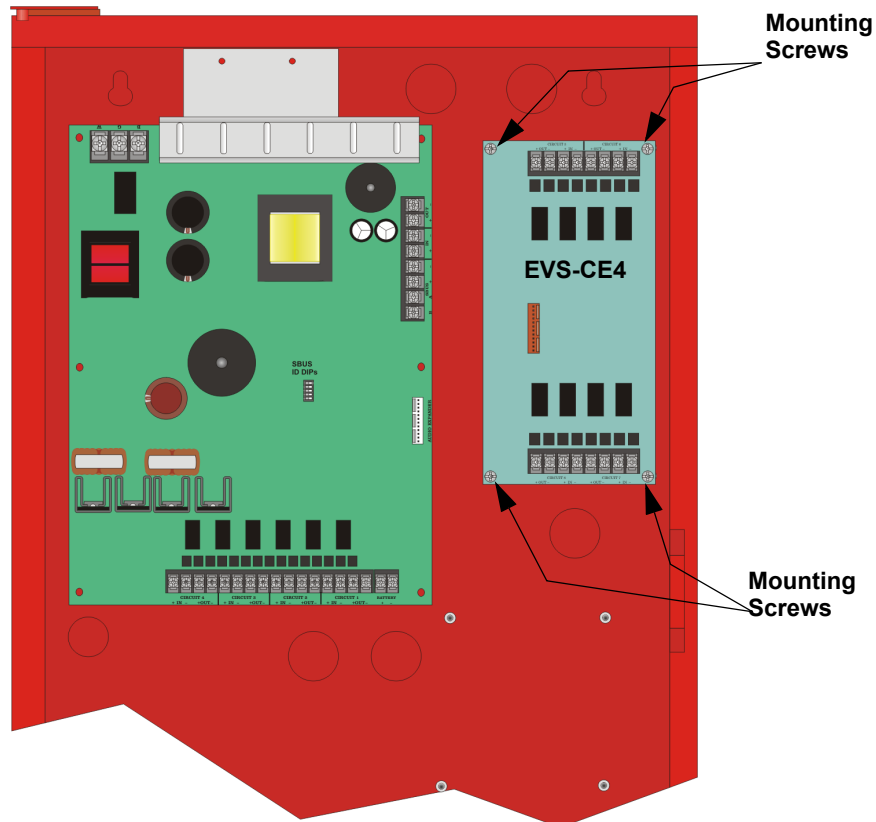

Figure 4-35 Mounting the EVS-CE4
1. Using the four supplied screws mount the EVS-CE4 in the EVS-50W or EVS-125W cabinet as shown in Figure 4-35.